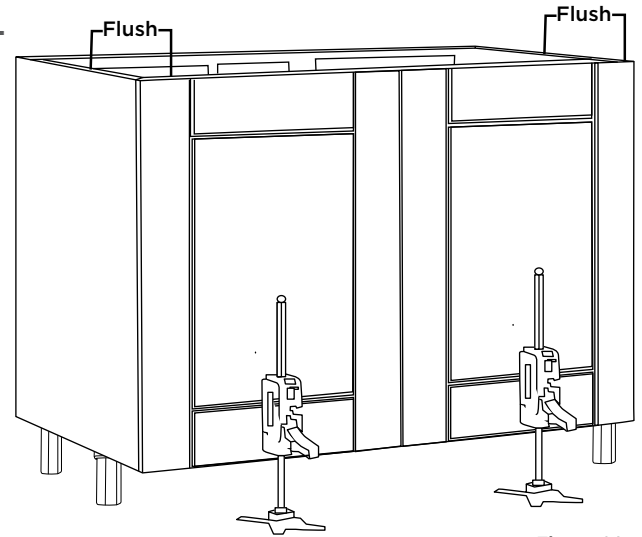

Figure 14
3. Hold or brace the panel in place while securing it temporarily with trigger clamps to prevent movement (Figure 14).